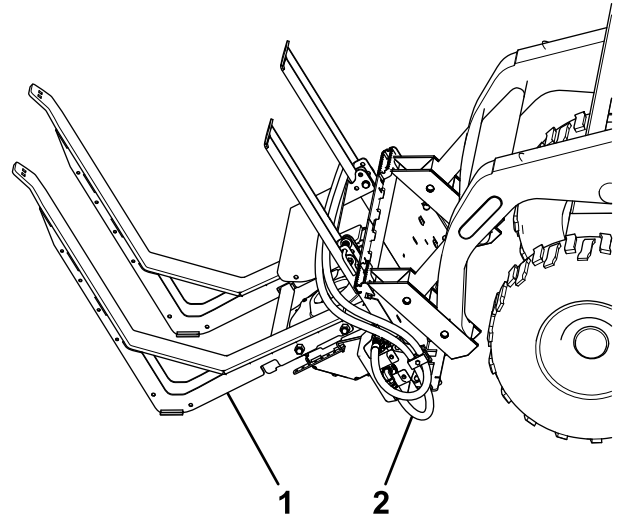

Figure 21
2. Disconnect the hydraulic hoses from the skid steer and store them on the hose bracket (Figure 21).
4. Lower the attachment plate into the resting position (Figure 21) until it slides free from the spreader frame, and slowly back the skid steer away from the frame.